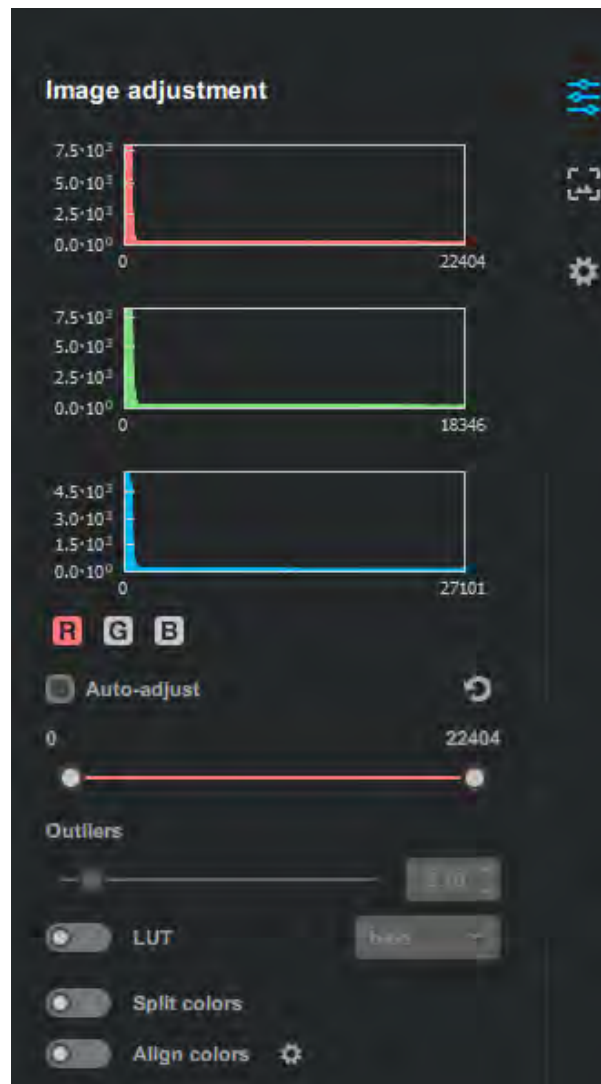

Figure 11.12.4: Figure: Widefield/TIRF image adjustments panel in BlueLake.
- The first setting is **Image Adjustment** (see Figure 11.12.4). This panel allows you to adjust the intensity of colors shown on the camera based on their pixel values. You can manually adjust the color detection channels' histograms by selecting the **R**, **G**, or **B** boxes and using the colored range slider. Alternatively, you can enable the **Auto-adjust** box for